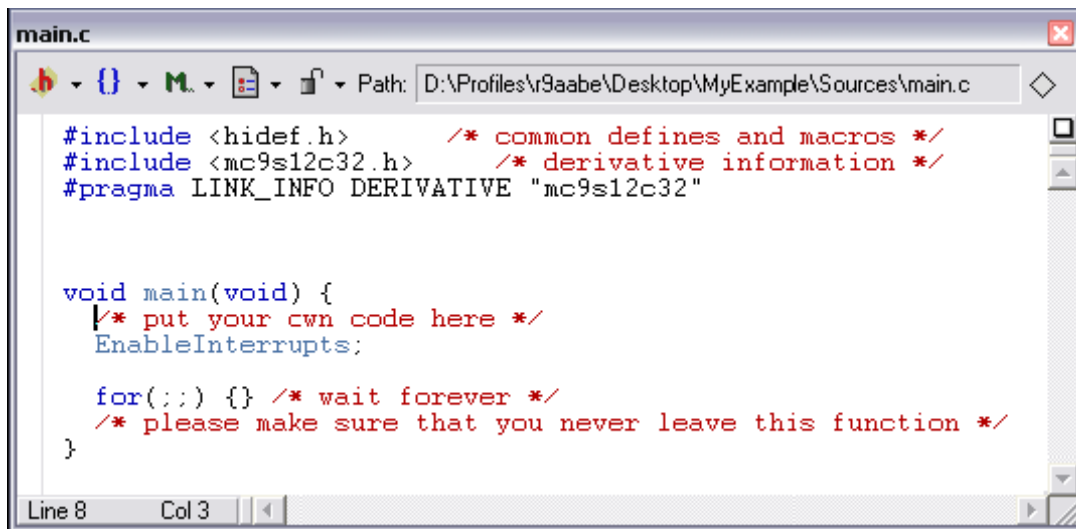

Figure 14. Example Editor Window - main.c
- b) Double-click the main.c file. An editor window will open and display the contents of main.c similar to that shown (see Figure 14)